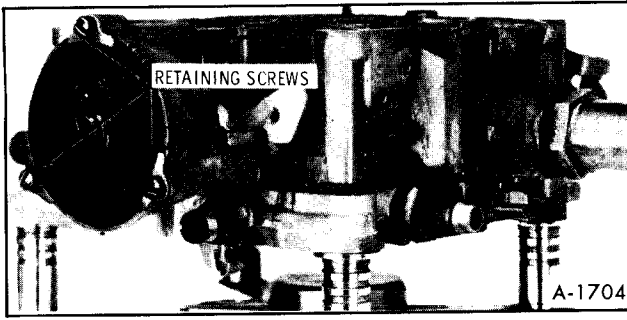

Figure 19-Choke Housing
1. Remove three retaining screws and retainers from choke cover and coil assembly. Then pull straight outward and remove cover and coil assembly from choke housing. See Figure 19.